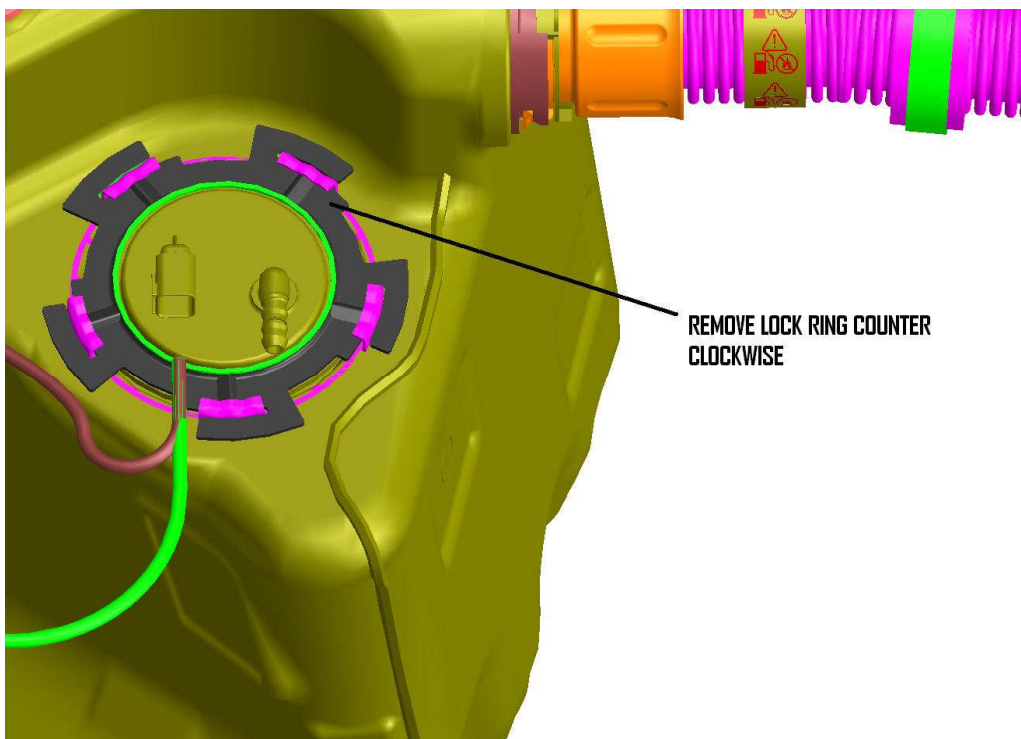

FIGURE 1-6
15. Next you will start on the Driver Side tank. Remove the lock ring from the top of the tank. This unit is also spring loaded and will pop out of the tank once the lock ring is removed. **Note the orientation of the float arm. This must be duplicated when placing the Aeromotive unit in the tank. Figure 1-6**